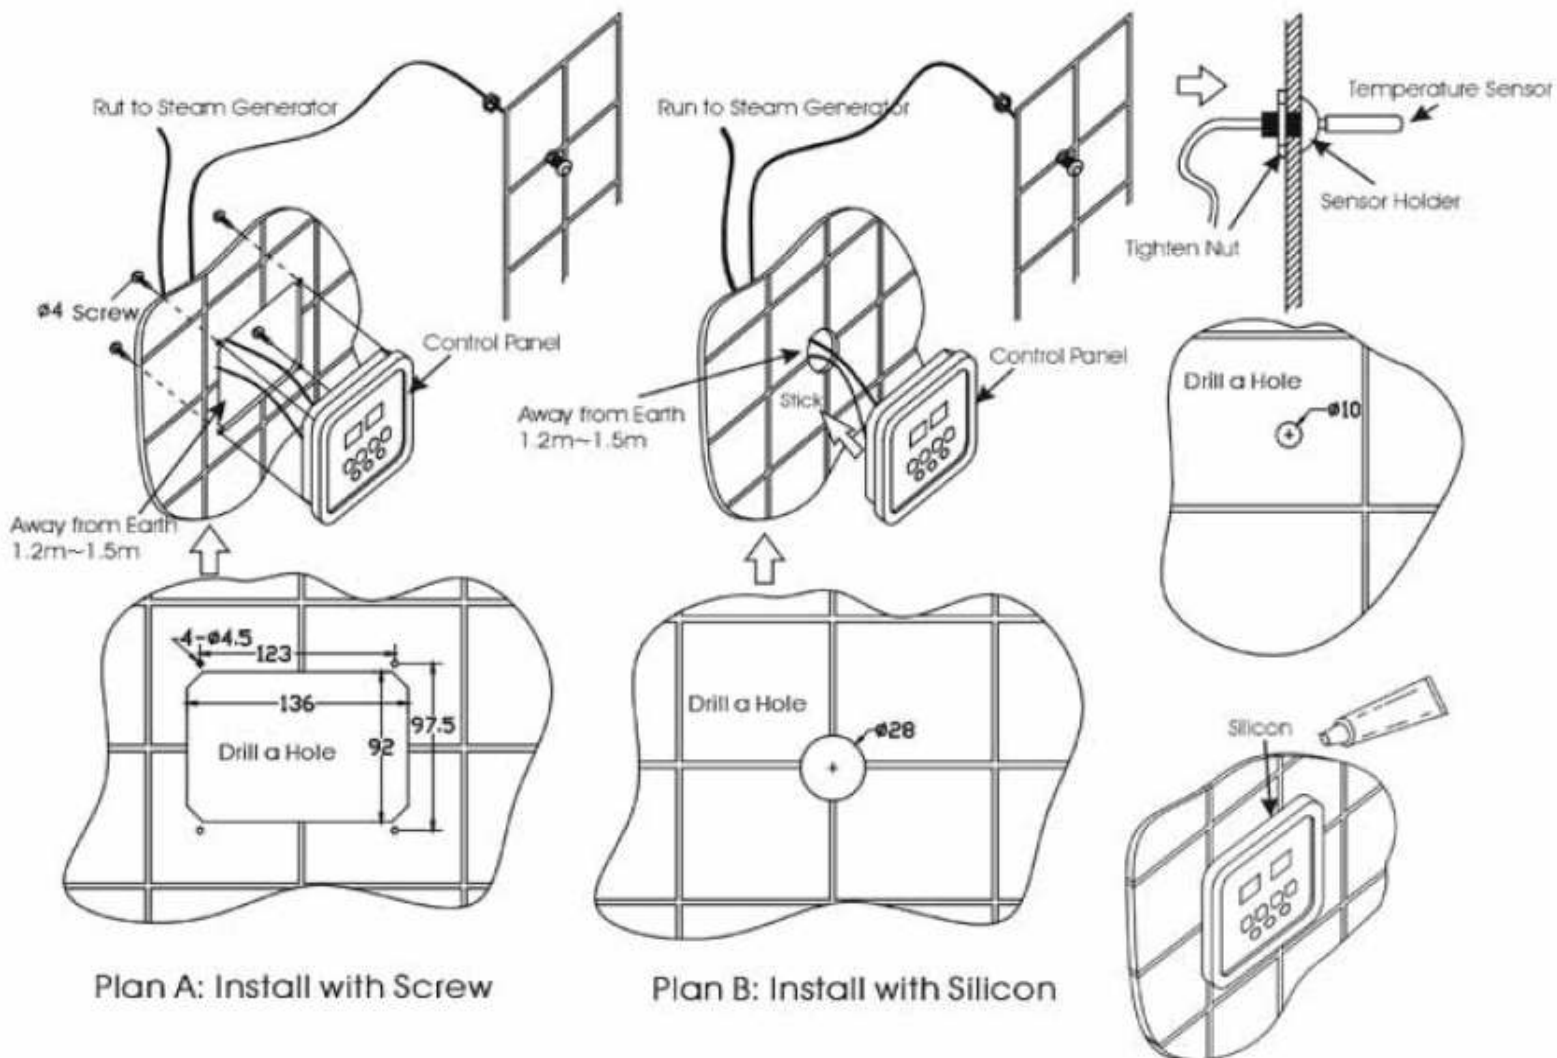

Figure 4 Control and Temperature Sensor Installation
- C: Notch a square recess for installing the control on the wall. Please note that the edge of control should be flush with finished wall. In addition to this, you could stick it onto the wall directly, and no need to open a recess. Be sure it is fixed firmly. (See figure 4)
- C: Insert the temp sensor to the temp sensor holder and fix it in the hole. Be sure the temp sensor have a good contact with the indoor air. (See figure 4)
Rip off the adhesive paper at the back of control. Locate the control into the recess. Fix it firmly using screws and waterproof silicone. You may need to wipe away any excess silicone. Keep the control panel welled leveled with the wall until it is tight against the finished wall. (See figure 4)